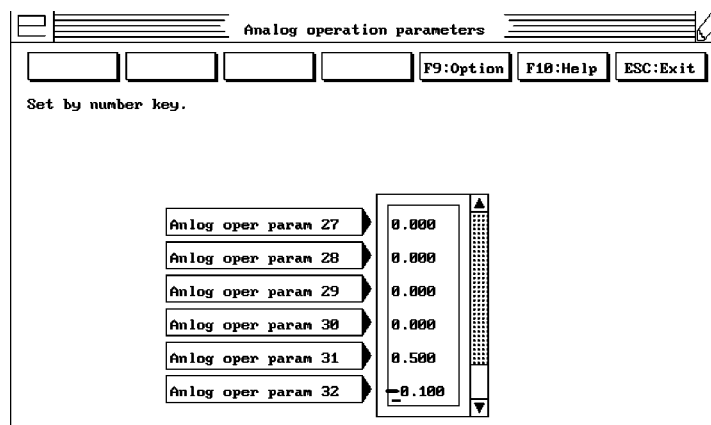

Figure 14
- From the **Analog operation parameters** menu, scroll down until you see **Anlog oper param 32** and select it. Enter the overlap band value as a negative (-) percent of full scale. For example, if you would like a 10% overlap band, key in a value of -0.100 (Figure 14).